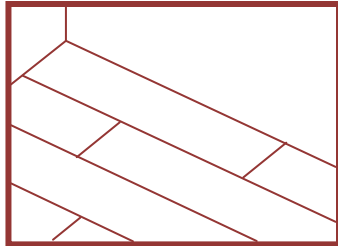
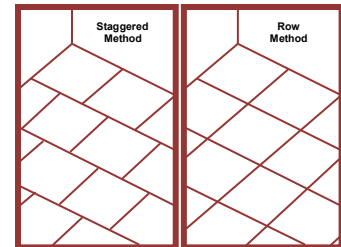

Figure 3
Figure 3a
**5.** When installing the planks, it is highly recommended to stagger the rows so that the short edge seams are not in a straight uniform line. We recommend the staggered random method (Figure 3) with at least 30 cm between end joints. When installing tiles you can either stagger as above or place in rows (Figure 3a)